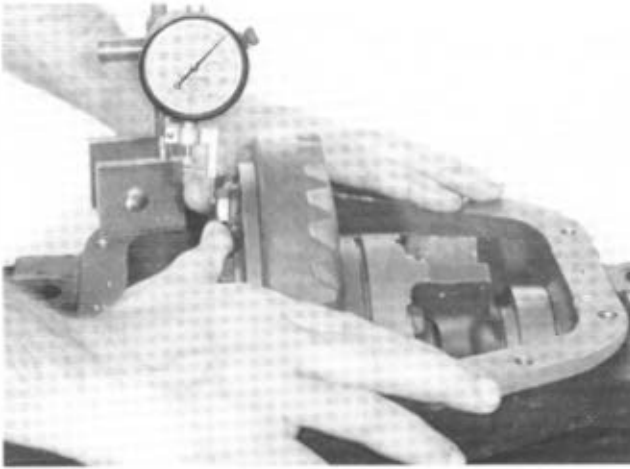

Figure 4-48
- (2) Total amount of space measured with gear set assembled in carrier as shown in Figure 4-48
- (2) Total amount of space measured with gear set assembled in carrier as shown in Figure 4-48.